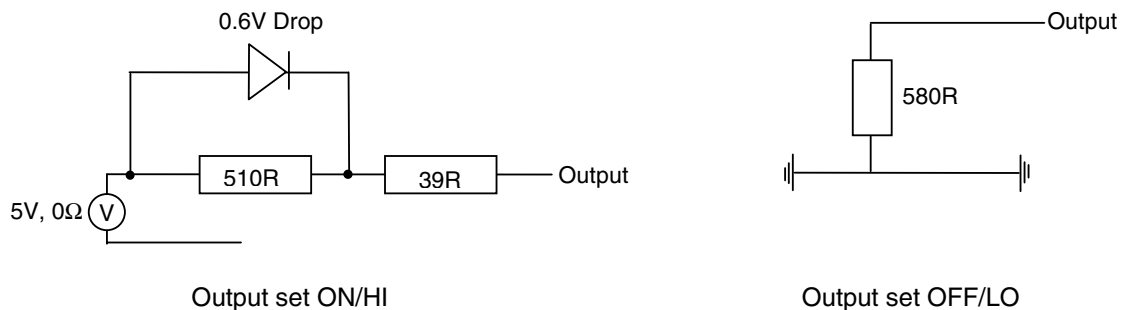

Figure 2. Equivalent Output Driver Circuit
* If more detailed output characteristics are required, experienced users should consult the equivalent circuit diagrams shown in Figure 2, below.